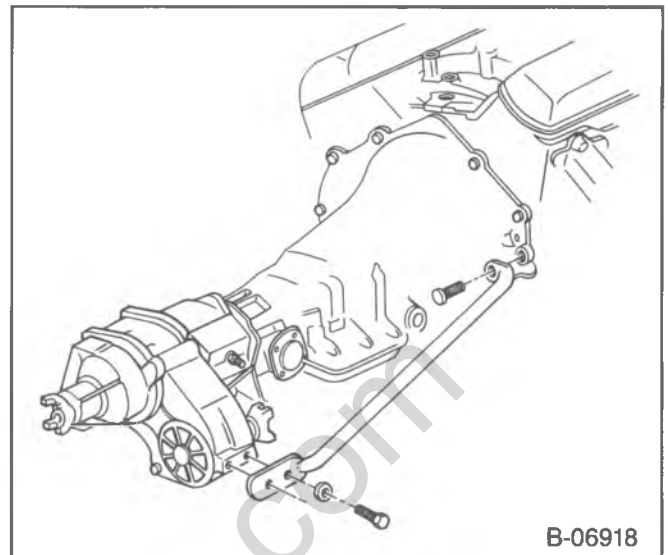

Figure 5—Strut Rod Support
- 3. Strut rod (automatic transmissions) (figure 5).
- 6. Strut rod (automatic transmission) (figure 5).